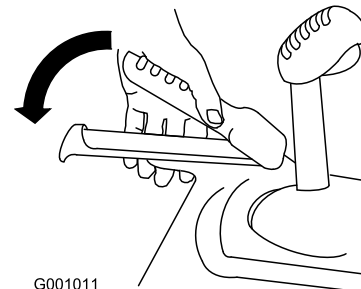

Figure 26
1. To engage the traction drive, squeeze the left hand (traction) lever to the handgrip (Figure 26).